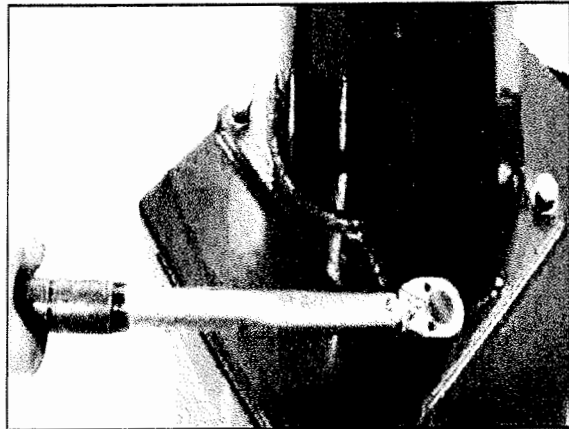

FIG5
3.2.1 After un-package the package carton, take out accessory boxes (FIG 4-1) ,bead breaking arm (FIG 4-3) and column assembly (FIG 4-2) . And position and fix according to the FIG5. Remove the bolt, elastic washer and plate washer on the body (FIG 4-4) .
3.2.2 Place the column on the body. The direction of the warning label is forwards. Make the holes on the column base plate align to thread holes on the body. Once again assemble the removed the bolt, elastic washer and plate washer and plate washer removed in 3.2.1 The torque is 70 N·M (FIG5) Use torsion wrench to tight